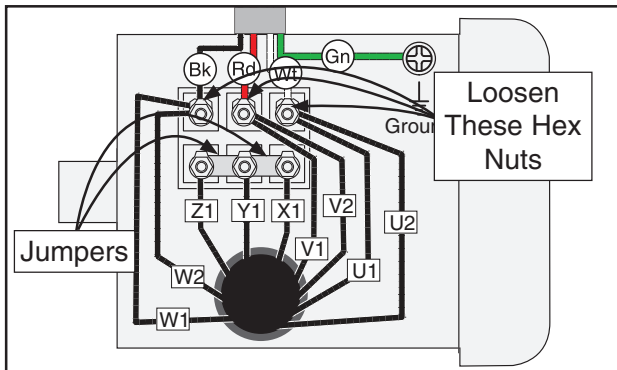

Figure 6. Motor rewired to 440V.
2. Open the motor cover, remove the motor junction box cover, then loosen the hex nuts shown in **Figure 6**.
3. Remove the two jumpers (they are stacked together), as indicated in **Figure 6**.